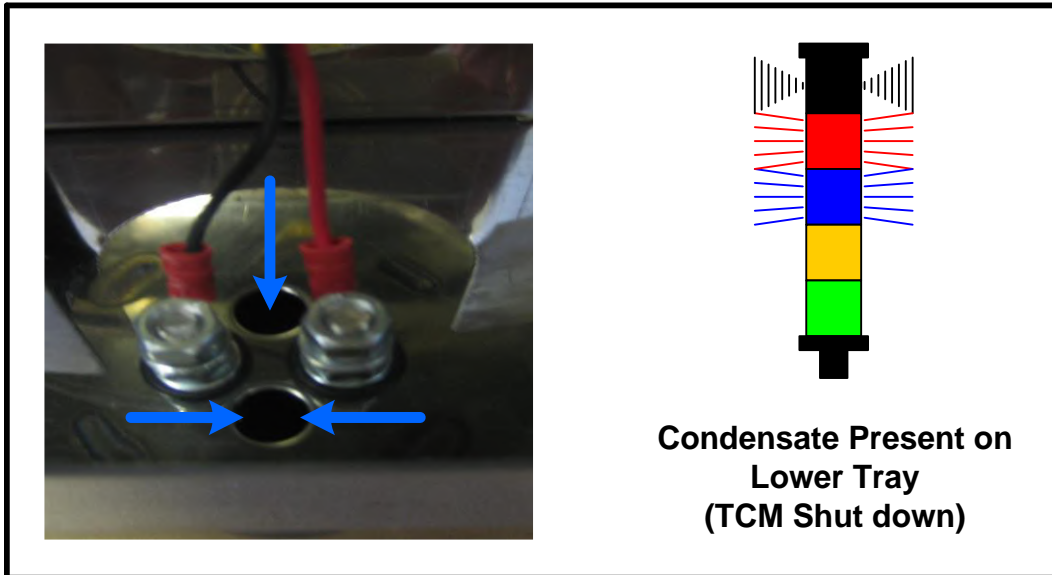

FIG 18
**If the Condensate Container is not replaced after emptying, or refitted with the plug still fitted, condensate will collect on the lower tray. Sensor probes at the front of the lower tray will detect the presence of condensate and cause the TCU to shutdown (FIG 18).**